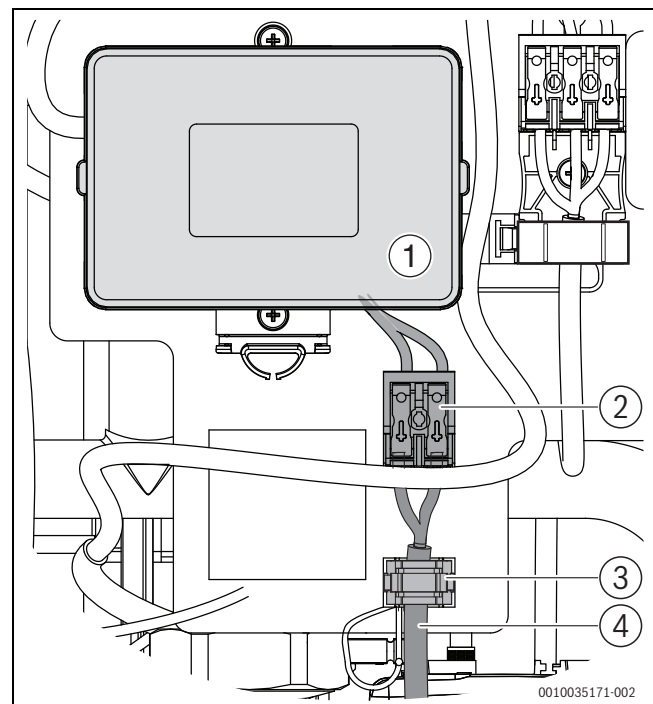

Fig. 29 Terminal on the relay box
- ▶ Connect the stripped ends of the cable to the terminal of the relay box and lock the terminal (→ Fig. 29 [2], [1] and Chapter 12.2, page 36).